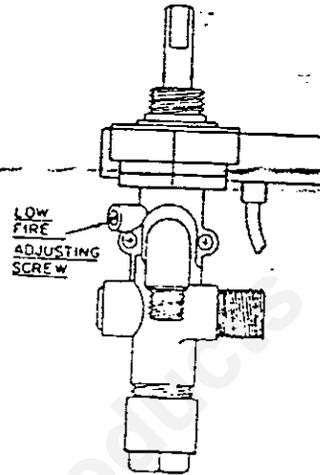

FIGURE 3
3) Turn LO-FIRE adjusting screw on gas valve (See Figure 3) counterclockwise to increase "LOW" flame and clockwise to decrease "LOW" flame.